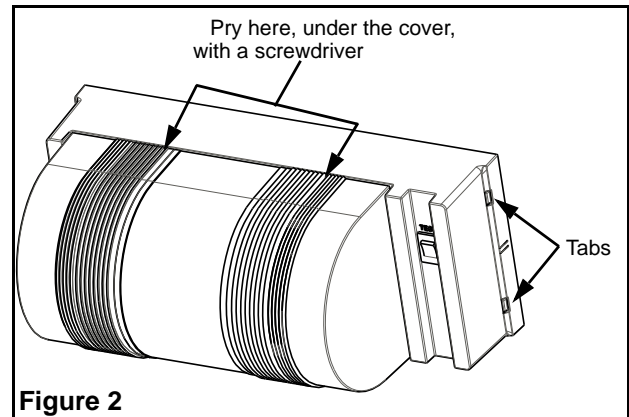

Figure 2
3. Remove the backplate by pressing on the tabs (see fig. 2) with a screwdriver.
11. Remove the clear lens by prying with a screwdriver, where indicated (see fig. 2).